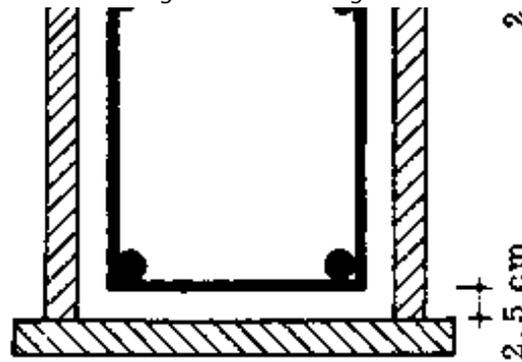

Fig. 2 CLEAR COVER
- **CONCRETE COVER:** Concrete cover, also called clear cover, is the thickness of concrete between the surface of the concrete and the nearest reinforcement bar enclosed in the concrete (Fig. 2).